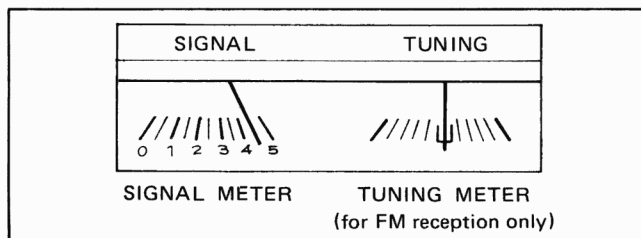

Fig. 7
- (2) When turning the tuning knob to tune in a station, the signal meter should deflect to the right and the tuning meter pointer should be centered for precise tuning. See Fig. 7.
- (1) Set the FUNCTION switch to AM.
- (2) Set the MODE switch either to MONO or STEREO.
- (3) Find the station with the TUNING knob. In this case, the point where the pointer of the SIGNAL meter is at a maximum is the optimum tuning point (see Fig. 7).
- (4) Adjust the VOLUME, the BASS, TREBLE and BALANCE controls as described in (4) of the FM reception procedure.